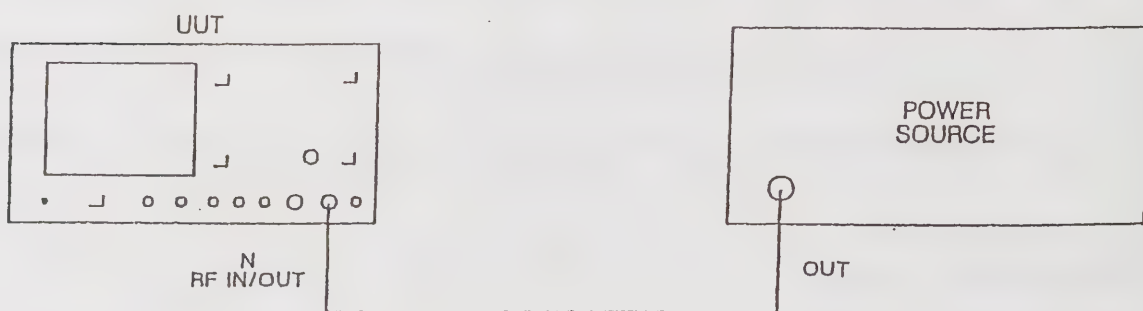

Fig. 3-9 Test equipment connections for adjusting R106 on AB511
- (1) Connect the equipment as shown in Fig. 3-9, where the power source is a calibrated one formed from the equipment shown in as described under 'RF power meter' in Chap. 6 of the Operating Manual.